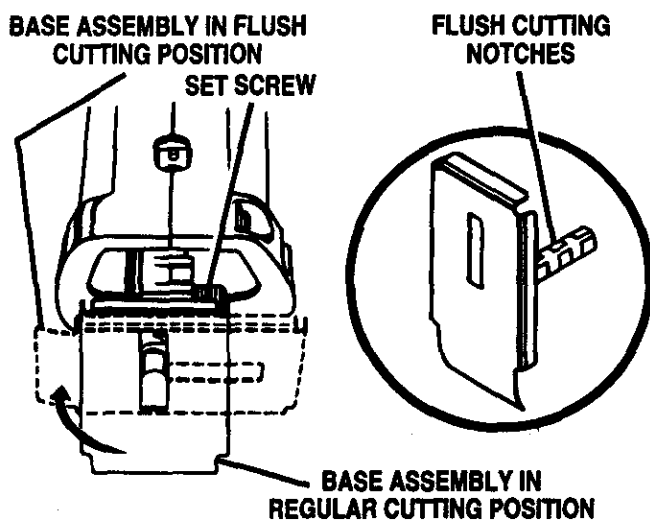

Fig. 6
See Figures 6 and 7.
- Loosen set screw and turn base assembly clockwise 90°. See Figure 6.